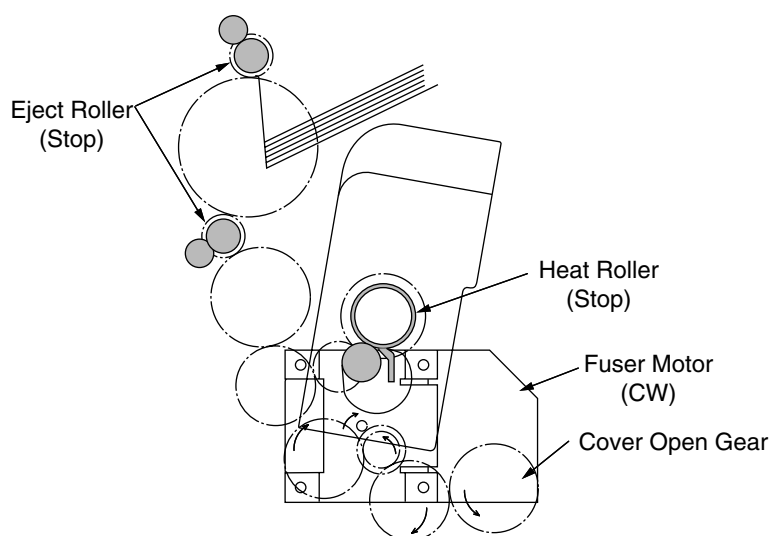

Figure 2-9
1. As illustrated in Figure 2-9, when the fuser motor rotates (Clockwise turn), the cover-opening gear rotates, causing the color drift sensor and density sensor cover to open.